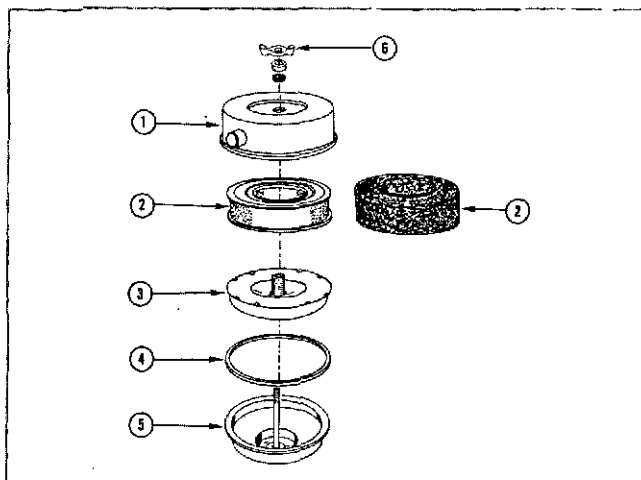

Fig. 5-21, V51909. Crankcase breather — mesh element with vapor barrier
1. Remove wing nut (6, Fig. 5-21.) flatwasher and rubber washer securing cover (1), breather element (2) and vapor element (3) to breather body (5).
2. Lift off cover and lift out breather element (2), vapor element (3) and gasket (4).
1. Install cleaned or new breather element (2, Fig. 5-21.) and cleaned vapor element (3) to breather body (5).
2. Install rubber gasket (4) in cover (1), position cover assembly to body (5).
3. Install rubber washer, flatwasher and wing nut (6); tighten securely.